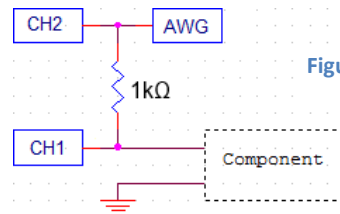

Figure 69: Component tester
- 1) Build the circuit shown in figure 69, or flip the CURVE switch on the Portables.